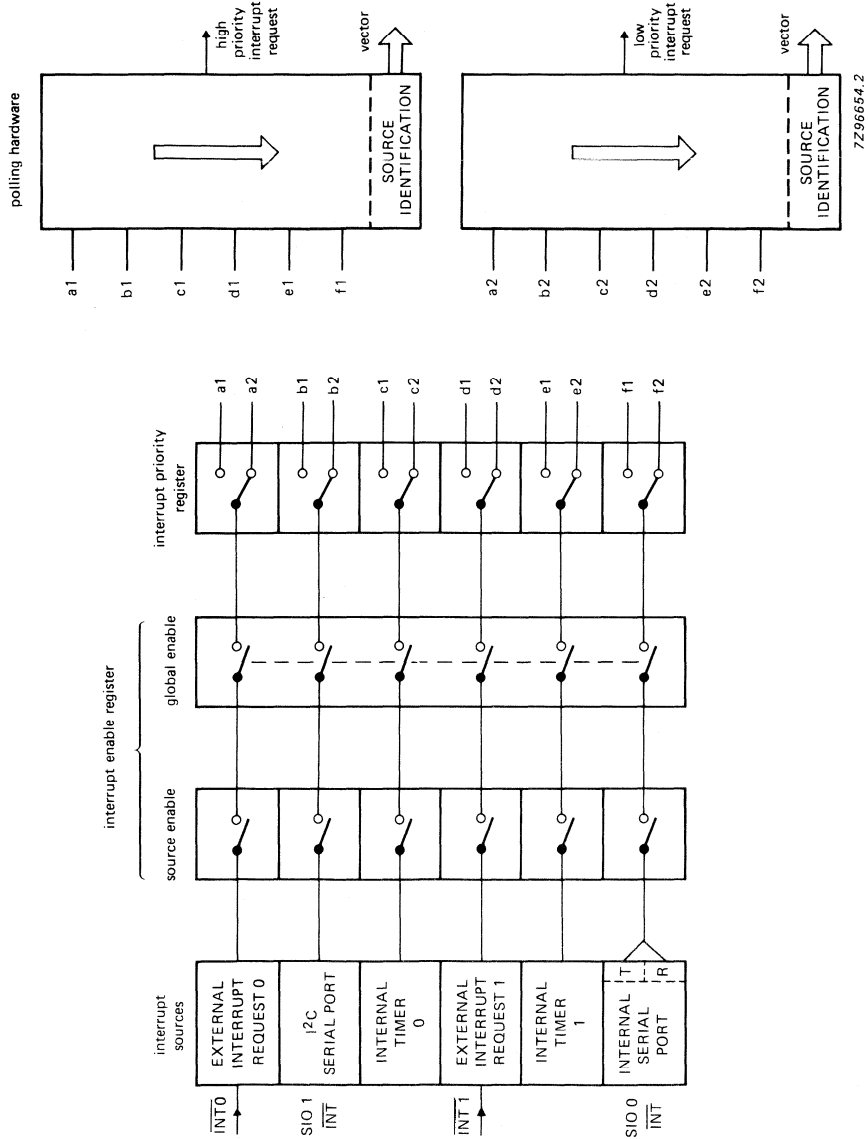

Fig. 9 Interrupt system.
**Interrupt system** (see Fig. 9)